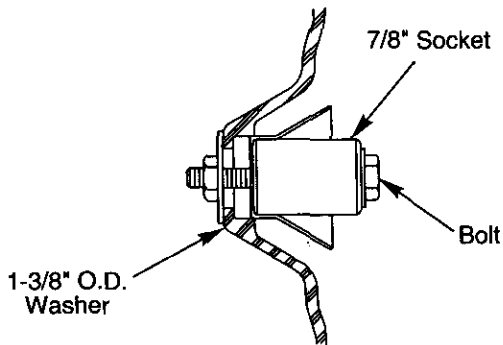

Figure 14
C. Pull insert into cavity as shown in Figure 14.